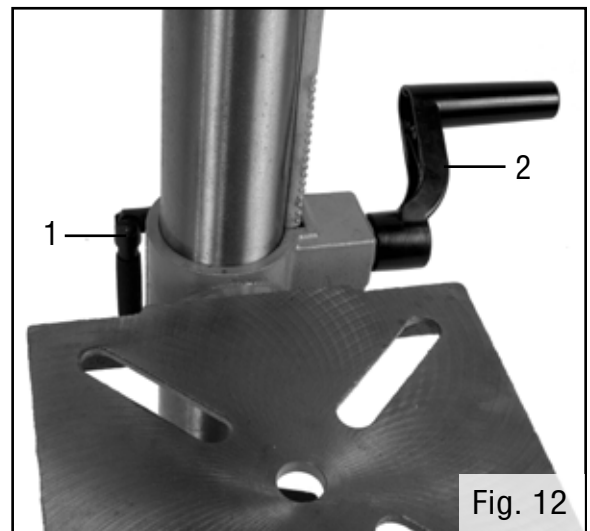

Fig. 12
RAISE AND LOWER THE TABLE (FIG. 12)
1. Loosen the support lock handle (Fig. 12 - 1) and turn the crank handle (Fig. 12 - 2) until the table is at the desired height.
ROTATE THE TABLE (FIG. 12)
1. Loosen the support lock handle (Fig. 12 - 1) and turn the table around the column to the desired position.